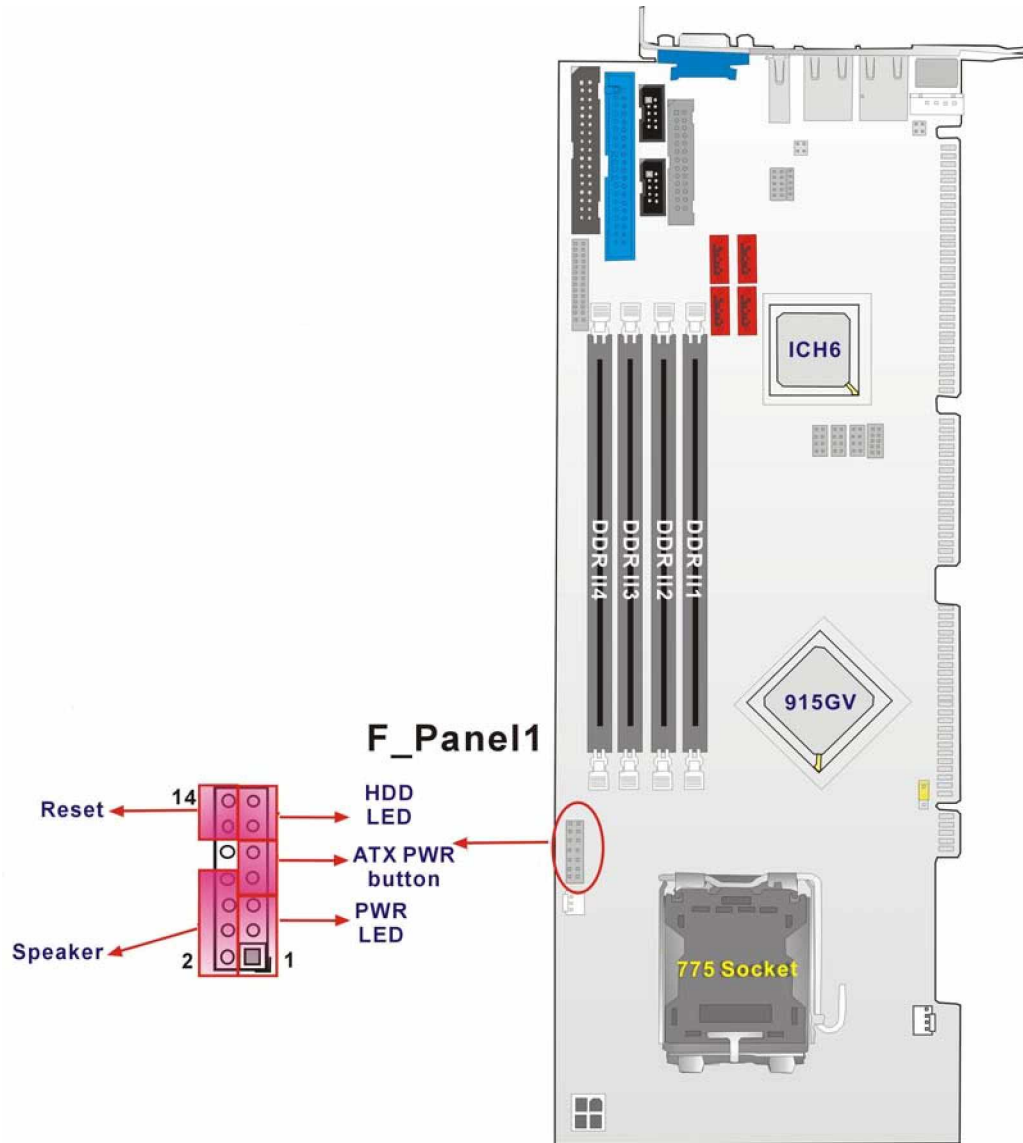

Figure 3-10: System Panel Connector Location
- CN Location:** See Figure 3-10